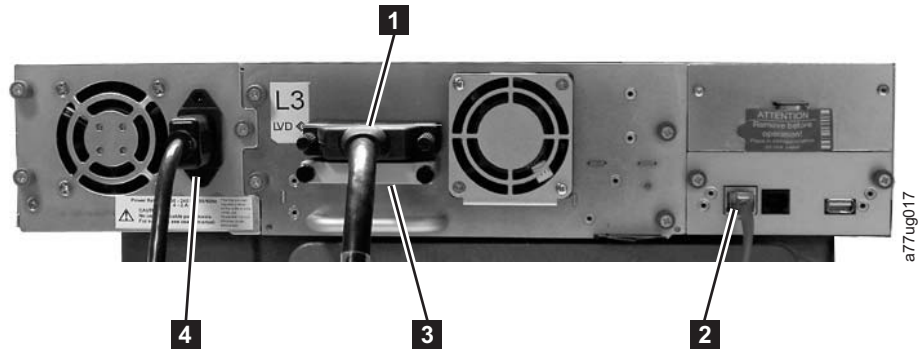
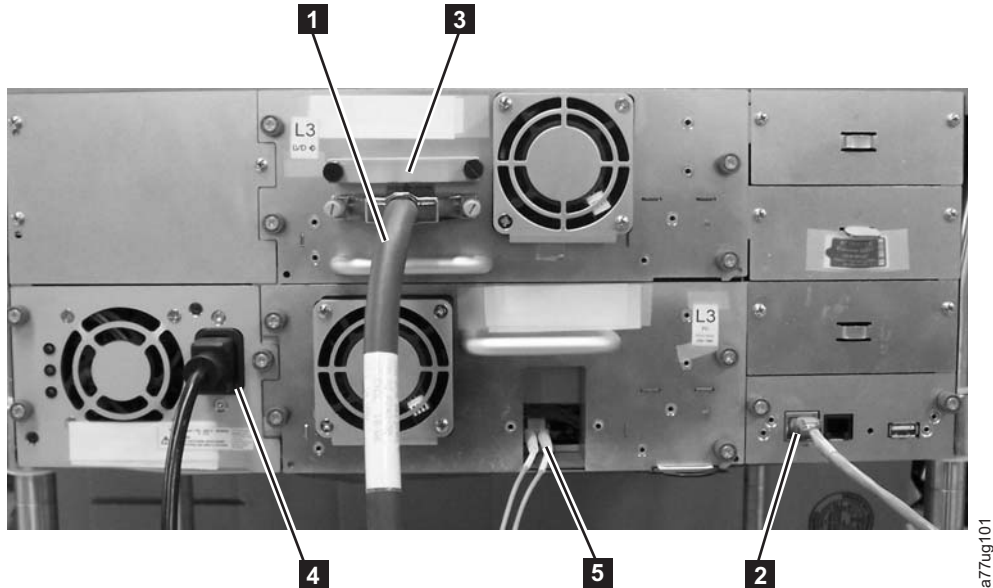
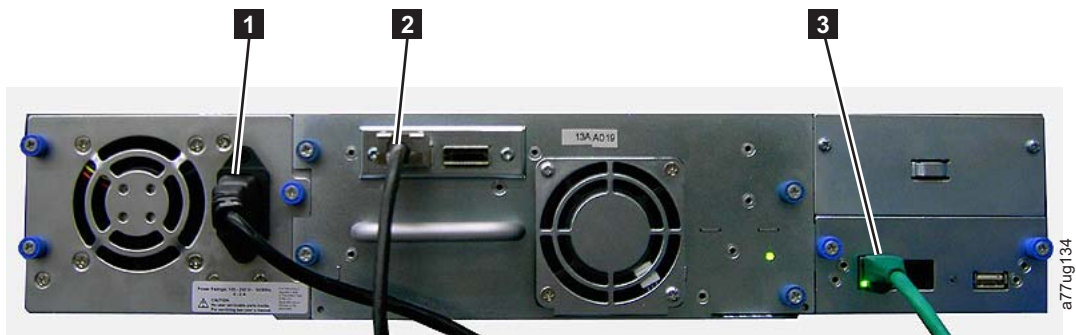

Figure 2-13. Attaching a SCSI host interface cable to the 2U library
Figure 2-14. Attaching host interface cables to the 4U library.
Figure 2-15. Attaching a SAS interface cable to the 2U library
2. For a SCSI library, attach one end of the host interface cable to one of the connectors on the back panel of the library (see **1** in Figure 2-13 on page 2-11). For a Fibre Channel library, attach one end of the host interface cable to the connector on the back panel of the library (see **5** in Figure 2-14 on page 2-11). For a Serial Attached SCSI (SAS) connected library, attach the host end of
the SAS cable to the SAS or Mini-SAS (SFF-8088) HBA (see **2** in Figure 2-15). Full high drives will have dual SAS or Mini-SAS connectors. Half high drives will have one SAS connector. Unused SAS connectors do not need to be terminated.
- For a SCSI library, connect the host interface cable to the connector on the SCSI host bus adapter or to the connector on the previous device on the SCSI bus. Attach the terminator (**3** in Figure 2-13 on page 2-11) to the remaining SCSI connector on the back panel of the library, if the library is the last or only device on the SCSI bus. Otherwise, attach one end of a SCSI cable to the remaining port and the other end to the next device on the SCSI bus. Make sure that the last device on the SCSI bus is properly terminated.
4. Plug the network ethernet cable (**2** in Figure 2-13 on page 2-11, Figure 2-14 on page 2-11, or **3** in Figure 2-15 on page 2-11) into the ethernet port on the back panel of the library. If the ethernet connection is directly attached to a server or laptop, a crossover ethernet cable may be required.
1. Plug one end of the power cord (**4** in Figure 2-13 on page 2-11, Figure 2-14 on page 2-11, or **1** in Figure 2-15 on page 2-11) into each power supply connector on the back panel of the library.